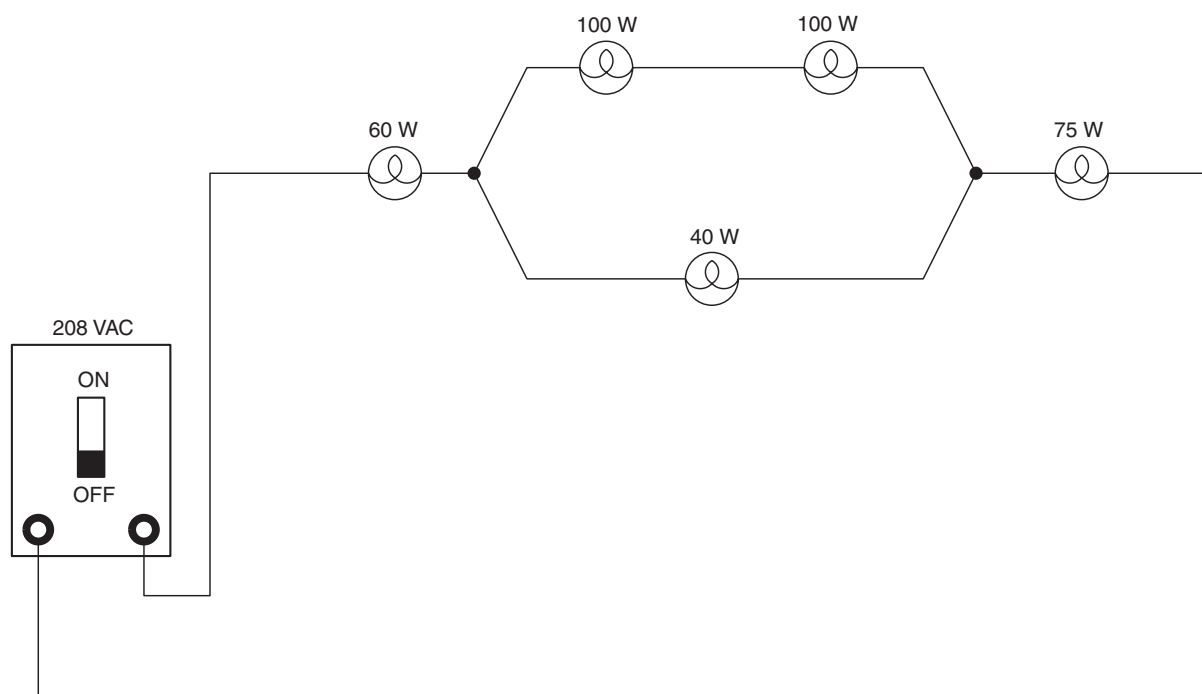

Figure 5-14 Series-parallel combination circuit.
1. Connect the circuit shown in Figure 5-14. Make sure that the AC power remains turned off until you are told to turn it on.